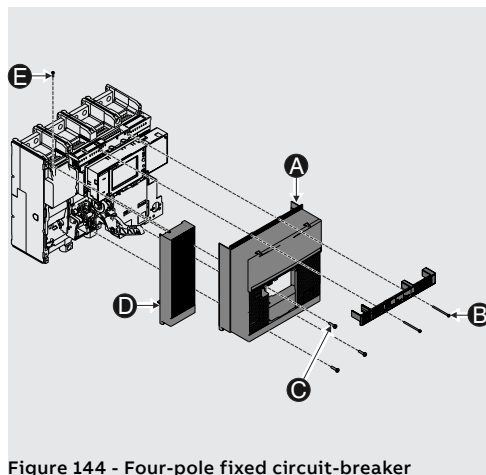

Figure 144 - Four-pole fixed circuit-breaker
1. Remove the front cover (A) by removing the mounting screws (B and C).
2. With a four-pole circuit-breaker (Figure 144 - Four-pole fixed circuit-breaker), remove the lateral shield (D) by removing the fixing screws (E).